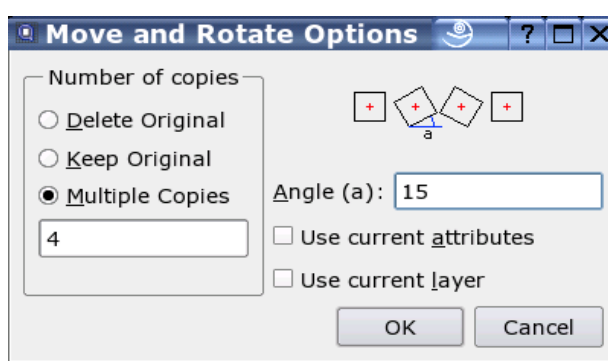

Figure 55: Move and Rotate options dialog.
6. The move and rotate dialog is displayed (Figure 55). To move the entities, choose "Delete Original", to copy them choose "Keep Original". Finally you can create a number of copies at once, by choosing "Multiple Copies" and entering the number of copies in the text line below. Note that '9' will create 9 copies and keep the original - so there will be 10 instances of the entities in the end. The copies will have the same attributes and be on the same layer as the original entities. To change that default behavior, you can check "Use current attributes" or "Use current layer".